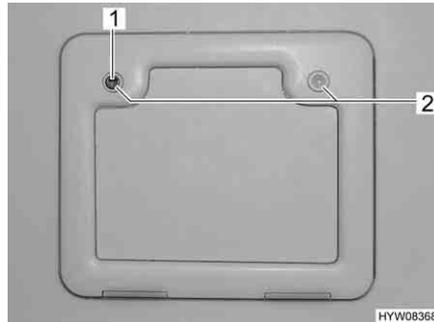

Fig. 10 External flap Thetford cassette
- Insert key into locking cylinder (Fig. 10,1) of the push-button lock and turn a quarter turn.
- Press both push-button locks (Fig. 10,2) simultaneously with your thumb and open the external flap.
- Insert key into locking cylinder (Fig. 10,1) and turn a quarter turn.